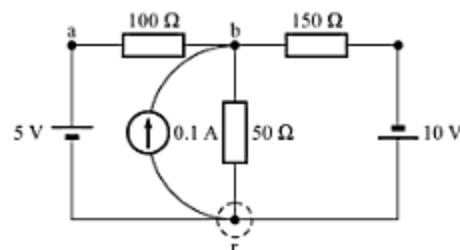

Fig. 3.76
17. Find the current downward in the $50\text{-}\Omega$ resistor in the circuit shown in Fig. 3.76, by first solving for v_b using node-voltage analysis.